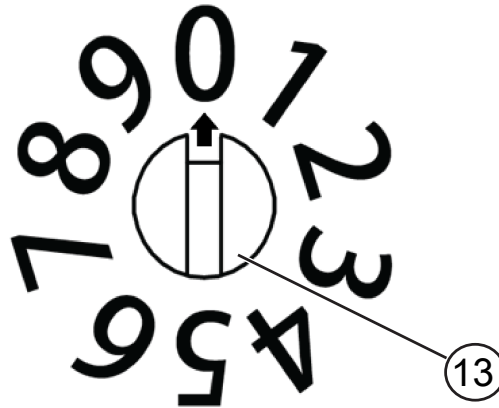

Fig. 8: Rotate switch
2. Place the rivet into the nose assembly or place the rivet onto the application in advance. (Fig. 8).